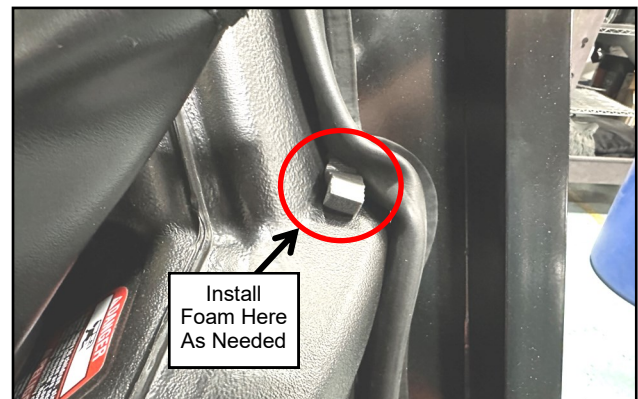

Fig. 2.35a (Install Foam on Left Fender)
2.35 Using a narrow plastic putty knife, push bulb rubber down in areas between the side frame and the vehicle's fender where gaps occur. If there are still gaps, cut 1/2" X 9/16" rubber foam (into 2" pieces) and install into any gaps that may be found between the left side of the cab and fender. On the right side, at the corner of the side frame and rear filler, as well as near the floorboard. Make sure to apply adhesive side onto the fenders of the vehicle. Per Figures 2.35a and b.